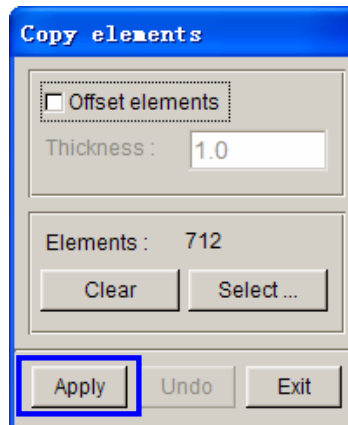

Figure 83: Copy elements dialog box
18. Click **OK** button to confirm the selection. The program returns to **Copy Elements** dialog box. Now, the **APPLY** button is activated. See Figure 83.